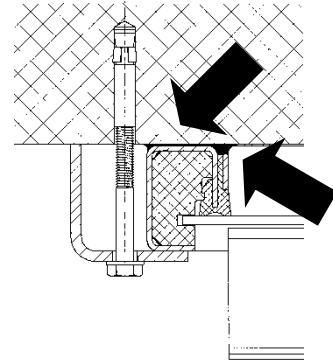
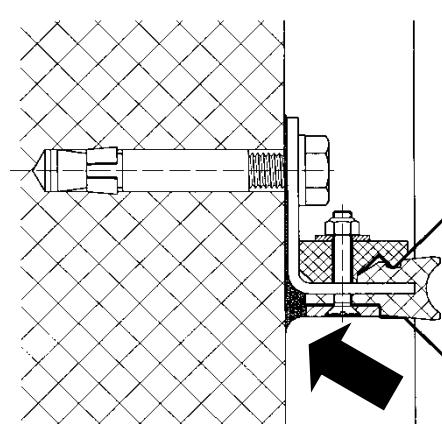

Fig. 5
Fig. 7
- When tightening the bolts, the sealant gets squeezed out on both sides of the frame. Smoothen sealant with finger to a clean grout (Fig. 5).
- For Sluice Gate Valves with transverse seal an additional grout is necessary after tightening between wall and transverse seal acc. Fig. 7.
- After mounting the actuating components (acc. 3.4) the Sluice Gate Valve shall be opened and the sealant on the inside of the frame and transverse seal shall be smoothened to a clean grout acc. Fig. 5 and Fig. 7.